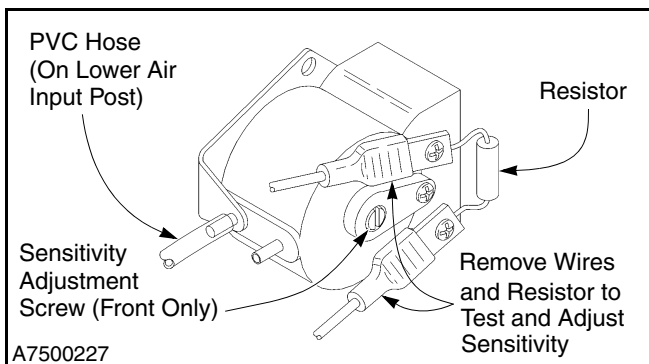

Figure 48
1. The reversing edge switch is a normally-open contact. The PVC hose is on the lower air input post. To adjust the switch, first remove the wires and resistor from the contact terminals and attach an ohmmeter across the two terminals. (See Figure 48.)
2. Turn the adjustment screw, located on the face of the switch, clockwise or counterclockwise until continuity is achieved. Ohmmeter should no longer show continuity. Turning the screw counterclockwise decreases sensitivity. Turning the screw clockwise increases sensitivity. (See Figure 48.)